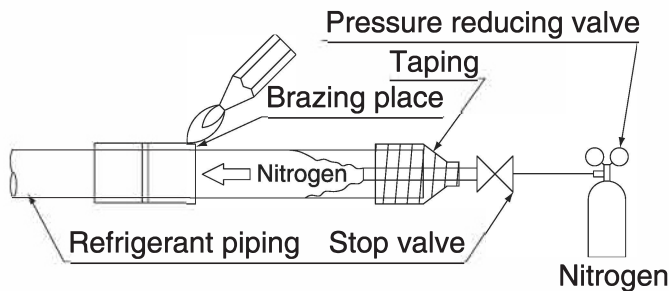

Fig. 17
- Wrap the sealing material (Medium-1, 2) (11) (12) around the joint insulating for fitting (8) and (9) (flare nut section), both the gas and liquid piping.
- Make sure to bring the seam of joint insulating for fitting (8) and (9) to the top.
- Before brazing refrigerant piping, have nitrogen flow through the refrigerant piping and substitute air with nitrogen (NOTE 1) (Refer to Fig. 17). Then, carry out brazing (NOTE 2). After all the brazing works are finished, carry out flare connection with the indoor unit. (Refer to Fig. 16)